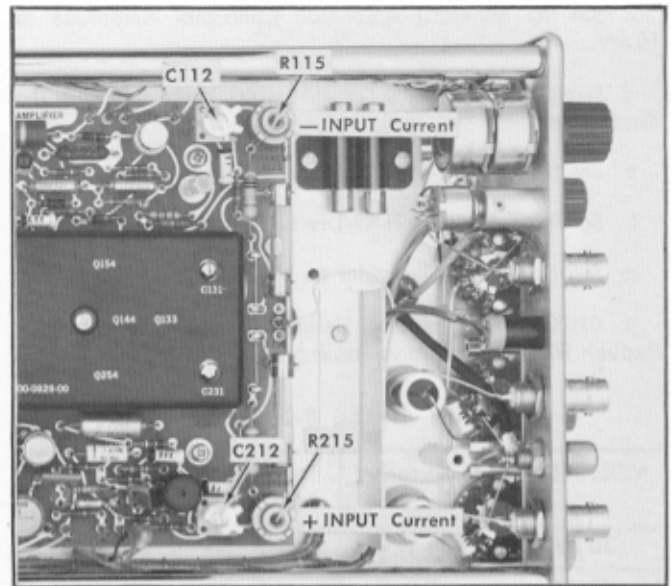

Fig. 5-6. Location of controls used in steps 7 and 8.
- f. ADJUST—The +INPUT Zero control, R215 (See Fig. 5-6) to return the trace to graticule center.
- e. ADJUST—The - Input Zero control, R115, (see Fig. 5-6) to position the trace to graticule center.